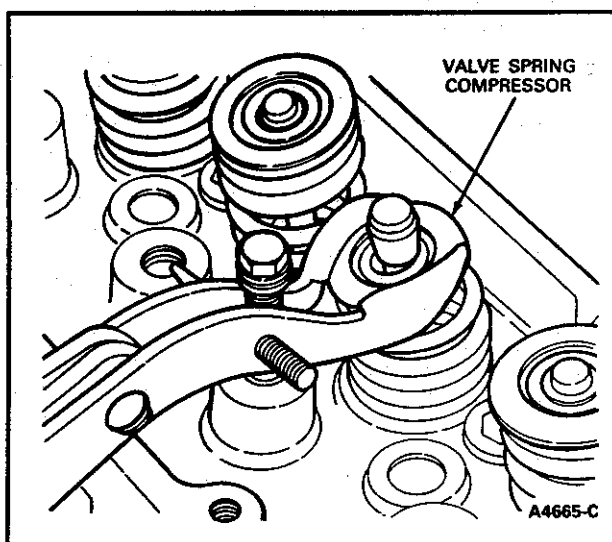
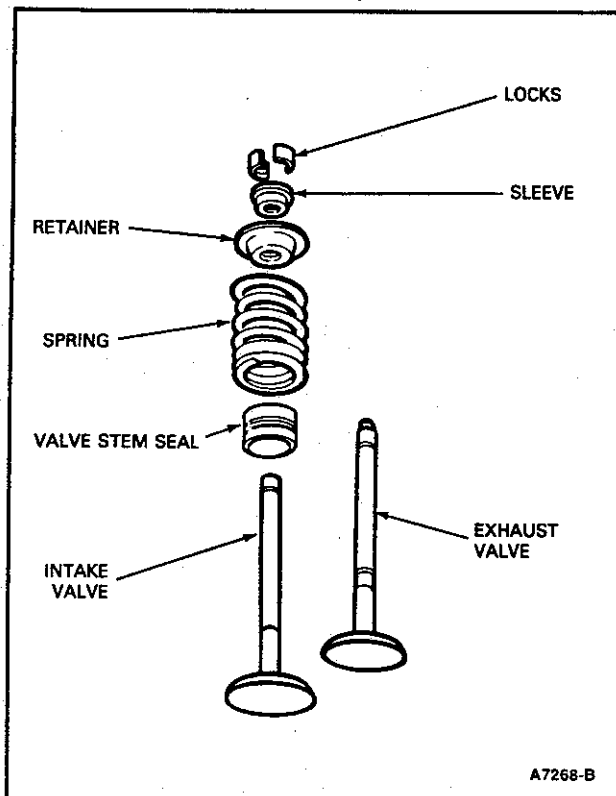

Figure 75 Compressing Valve Spring on Bench
Figure 76 Valve Assembly — Typical
3. Compress the valve spring (Figure 75). Remove the spring retainer locks and release spring.
1. Install each valve (Figure 76) in the port from which it was removed or to which it was fitted. Install a new stem seal on each valve.
2. Install the valve spring over the valve, and then install the spring retainer and sleeve. Compress the spring (Figure 75) and install the retainer locks (Figure 76).